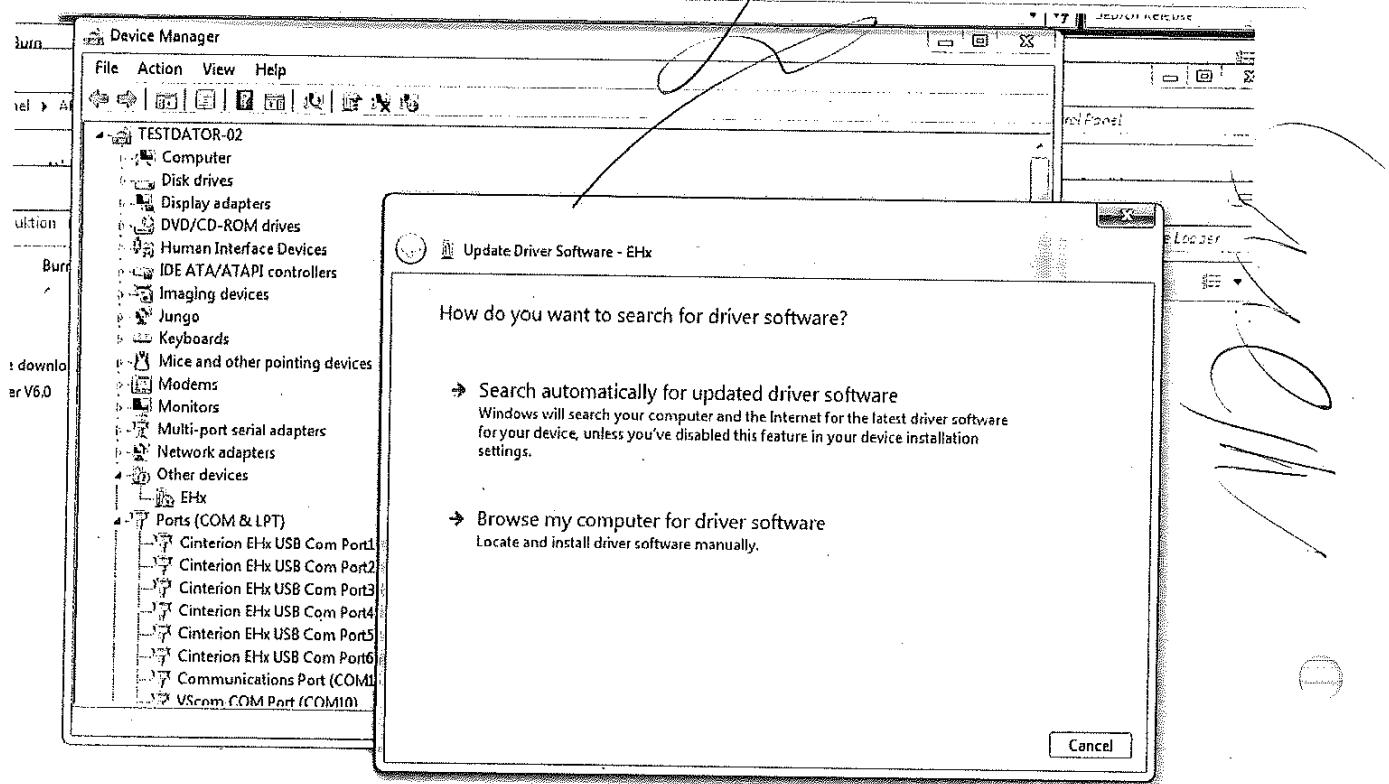

Figure 8. USB driver installation, browse manually.
- Click on the alternative "Browser my computer for driver software", see Figure 8.